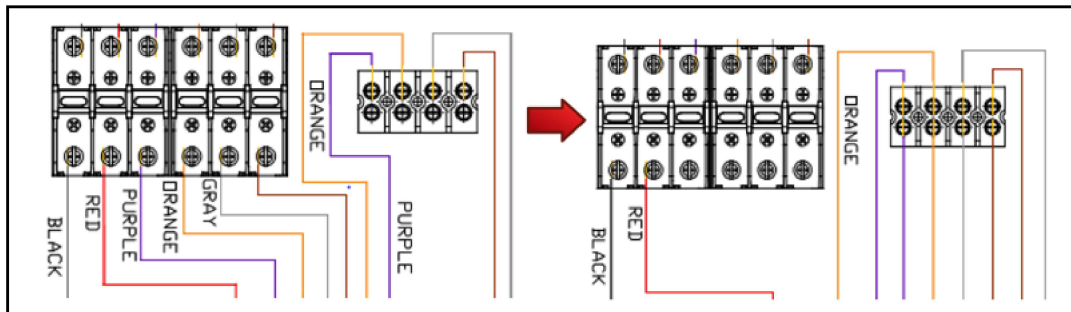

Figure 6 - Converting from Simultaneous to Non-Simultaneous Operation
5. Tighten screws to securely hold wires. Be sure not to place wire insulation under screws. See Figure 6.